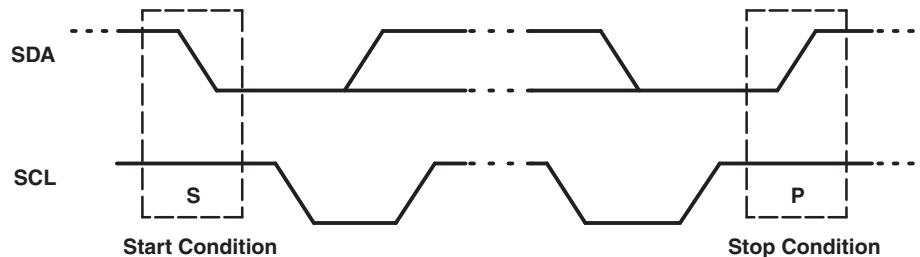

Figure 14. Start and Stop Conditions
Both data and clock lines remain high when the bus is not busy. A high-to-low transition of the data line while the clock is high is defined as the Start condition (S). A low-to-high transition of the data line while the clock is high is defined as the Stop condition (P) (see Figure 14).